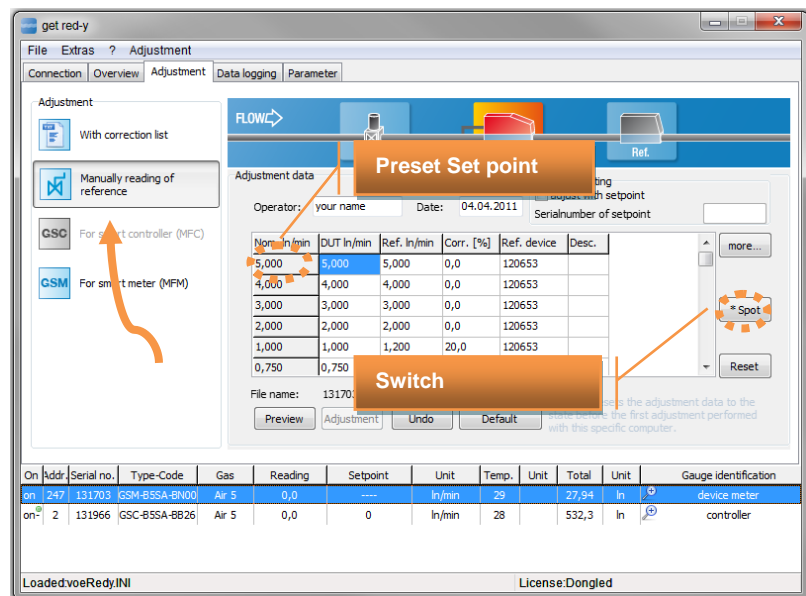

Figure 63: Adjustment tab
Clicking the Adjustment tab opens the window as shown in Figure 63.
**Spot:** A spot measurement will be performed only on the measuring point marked in blue in Figure 63.